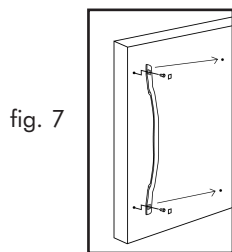

fig. 7
### Installing the Handle (fig. 7 & 8)
2. Remove the door handle by unscrewing the upper and lower screws with a Phillips screwdriver. (see fig. 7)